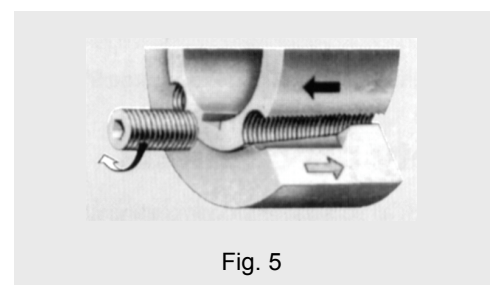

Fig. 5
1. Loosen and remove all screws. Depending on the taper bush size, screw 1 or 2 greased screws into the half threaded push-off holes of the taper bush (Fig. 5).